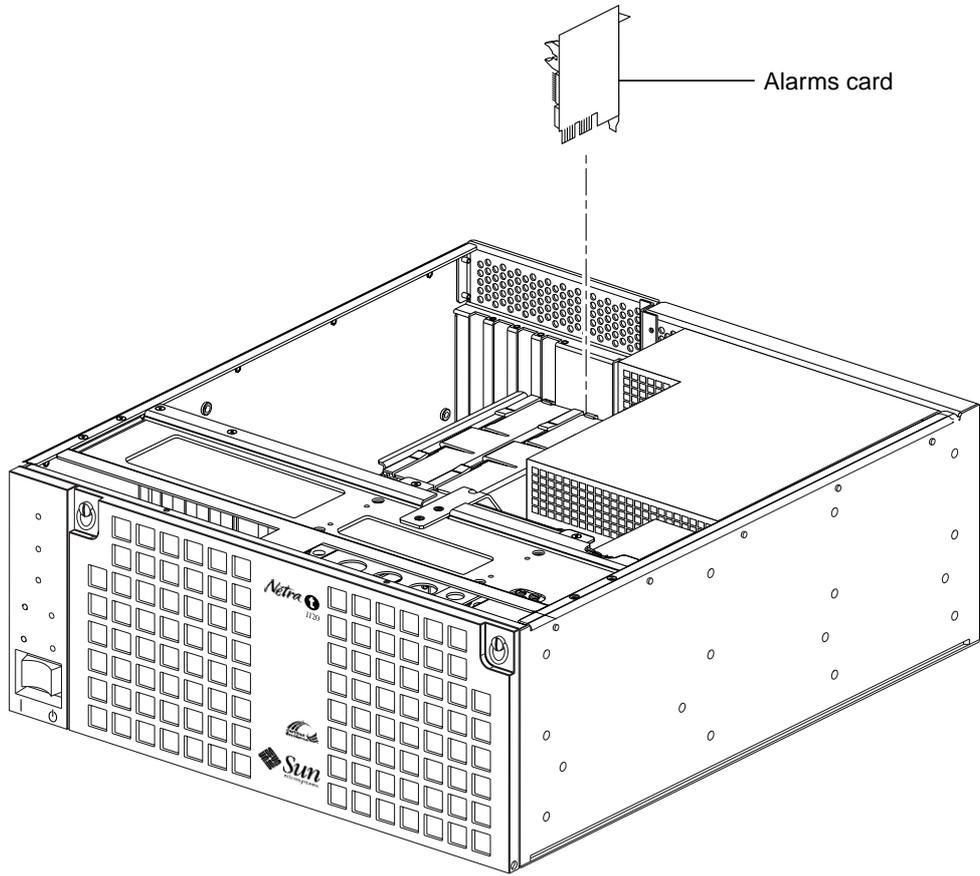

FIGURE 10-9 Removing and Replacing the Alarms Card
**6. At the two upper corners of the alarms card, pull the card straight upward from the slot. See FIGURE 10-9 on page 10-22.**